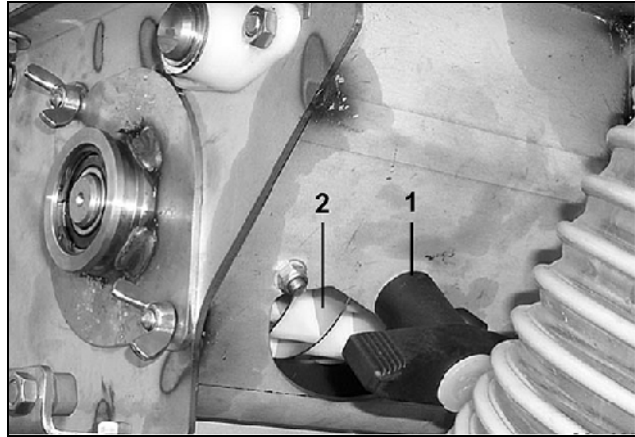

Fig. 117
- Open the residual emptying flap R (Fig. 117/2) by turning the handle (Fig. 117/1).
- Close the residue emptying flap (Fig. 117/2) and secure the empty seed catch pan to the seed hopper.